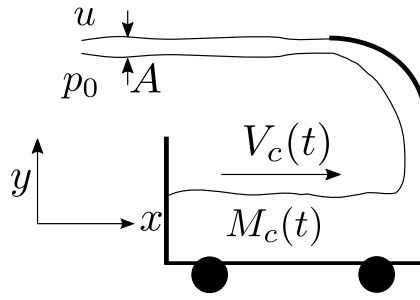

Figure 9: Cart with variable mass
11. A water jet of speed u and cross-sectional area A fills a cart of mass M_0 , initially at rest as shown in figure 9.